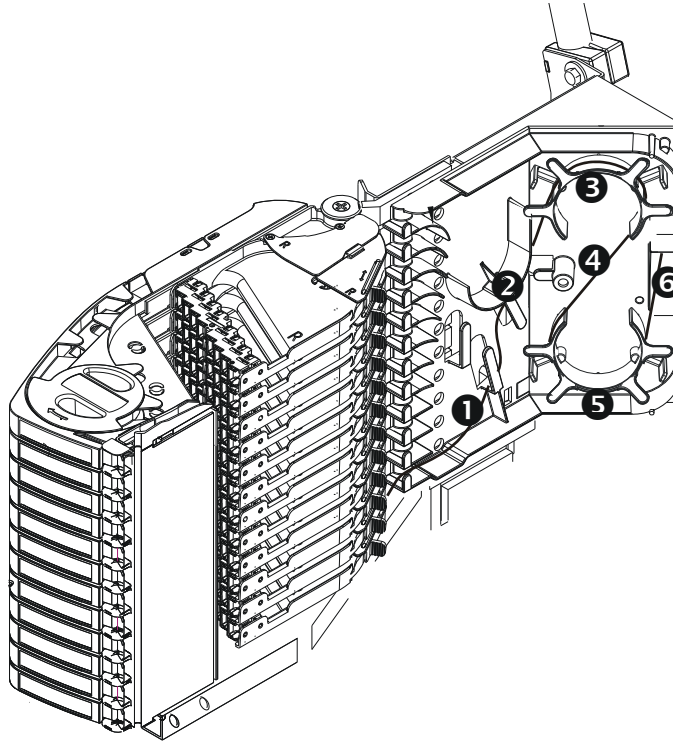

Figure 42 - Excess Cable Routing
7. Carefully fit excess cabling into guides, around storage spools, and out portal, as shown in Figure 42.